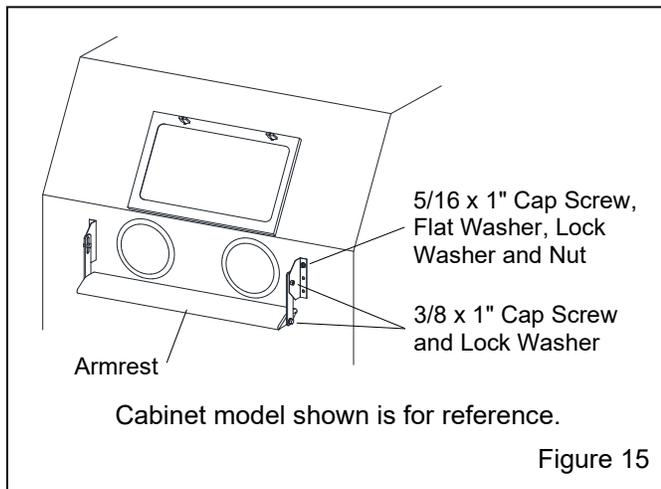

Figure 15
**3.4.1** Assemble the armrest and mounting brackets, as shown in Figure 15.